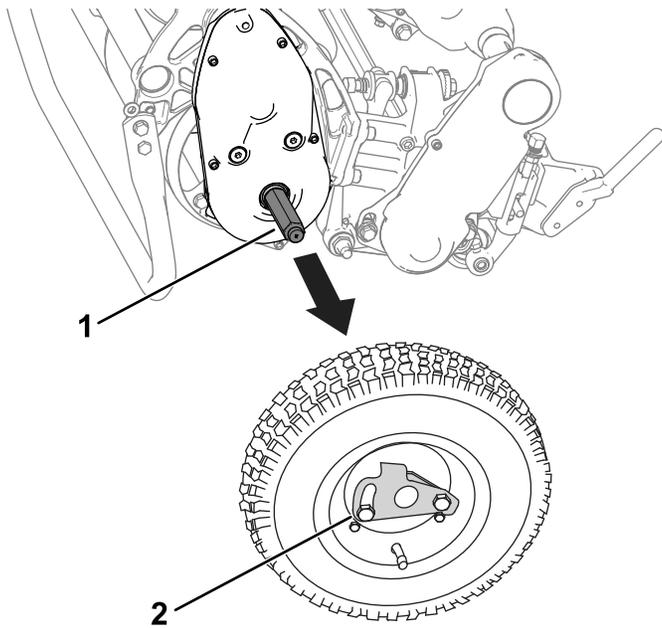

Figure 20
3. Remove the transport wheels by pushing the wheel-locking clips out of the axles (Figure 20).